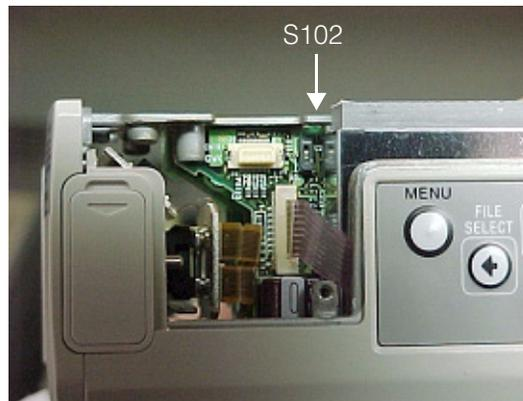

Figure 6. Sony DXC-390 with cover removed
2. Locate switch S102 as shown in Figure 6.